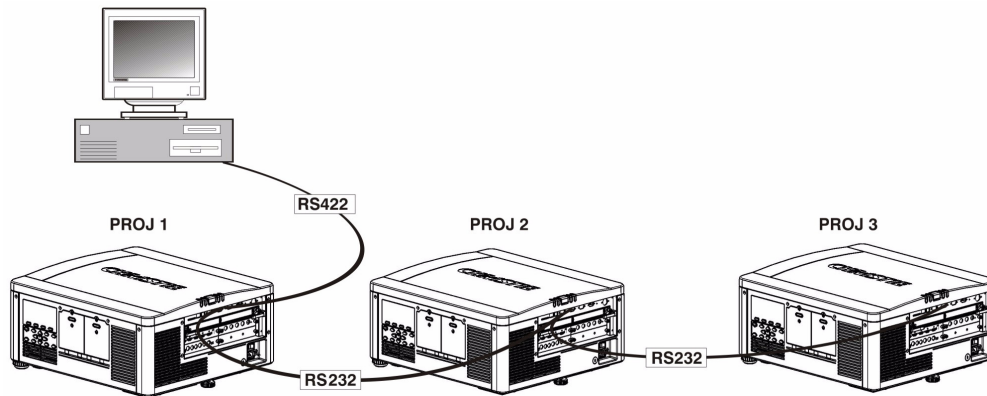

FIGURE 2-22 MIXED NETWORK
2. Chain the projectors together by connecting an **RS-232 OUT** (Null Cable) of the first projector (already connected to the computer/controller through the **RS-422** port straight thru to an **RS-232 IN** on the next projector in the chains). Continue connecting projectors in this manner until you’ve reached the last projector in the chain, so that only the last projector has one unused port **RS-232 OUT**, see Figure 2-22 Mixed Network.